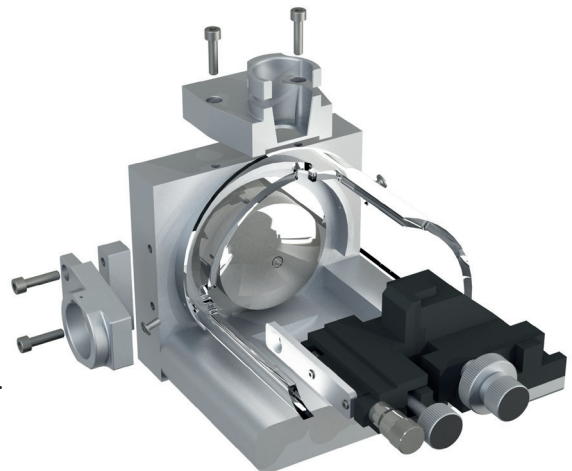

Fig. 4: Installation of the ES071 mounting kit
- Now mount the provided safety shield instead of the original one. Please see Fig. 4 for reference.